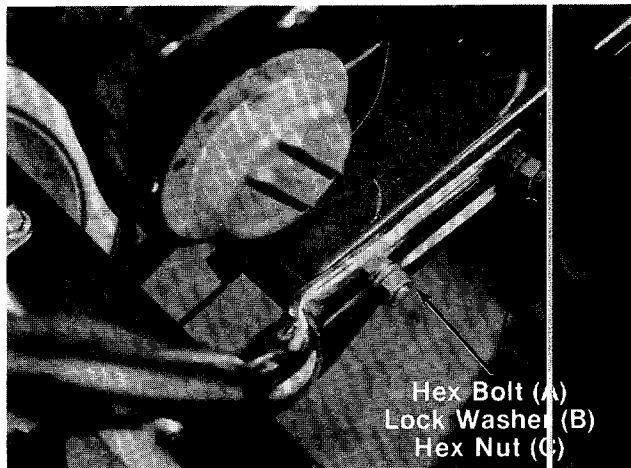

FIGURE 2.
- B (4) Lock Washers 5/16" I.D.
- C (4) Hex Nuts 5/16-24 Thread
- D (2) Cable Ties
- E (2) Self-Tapping Screws .50" Long
- F (2) Speed Nuts
- G (1) Ferrule
1. Line up the holes in the handles with the holes in the frame. Secure with hex bolts (A), lock washers (B) and hex nuts (C). See figure 2.